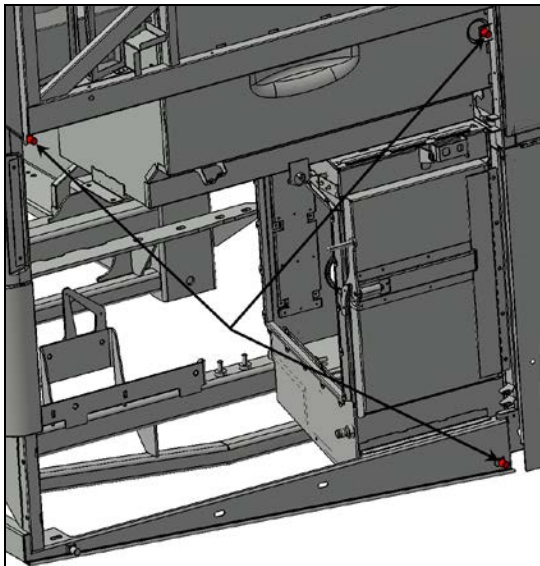
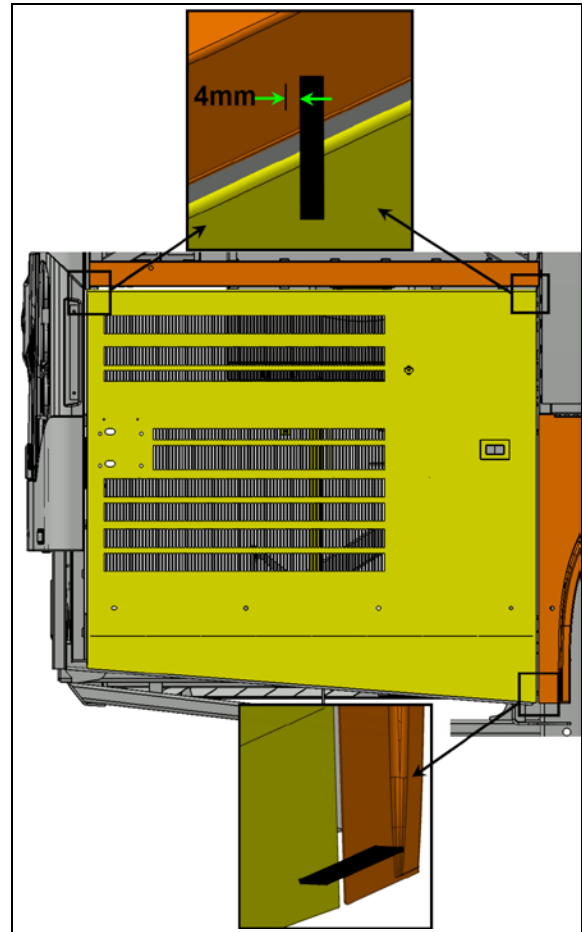

FIGURE 62
FIGURE 63
19. Screw in or out the two upper stoppers so that the upper part of the door exceeds the horizontal member by  $5/32"$  to  $3/16"$  (4mm to 5mm) (see FIGURE 62 & FIGURE 63).